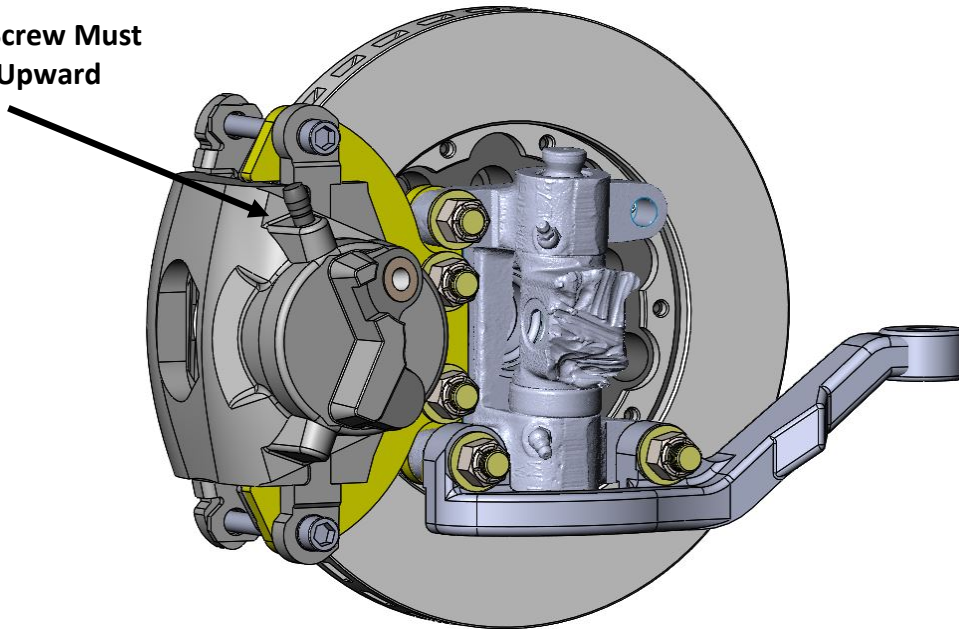

Figure 7 - Caliper Installed (Passenger Side Shown)
9. Mount the caliper to the caliper mounting bracket. With the pads installed in the caliper, slide the caliper over the rotor and line up the mounting ears of the caliper with the holes in the caliper mounting bracket. Insert the two caliper bolts through the mounting ears and tighten. Torque the bolts to 35 lbs/ft. **NOTE:** Make sure the bleeder screws are pointing up as shown in Figure 7 on the next page and disregard the casting of "L" and "R" on the caliper as the calipers will be reversed of their markings.